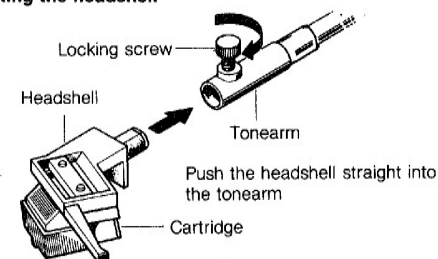

Fig. 3
1. To mount the main weight rotate the black knob in the direction indicated by the arrow in fig. 3.